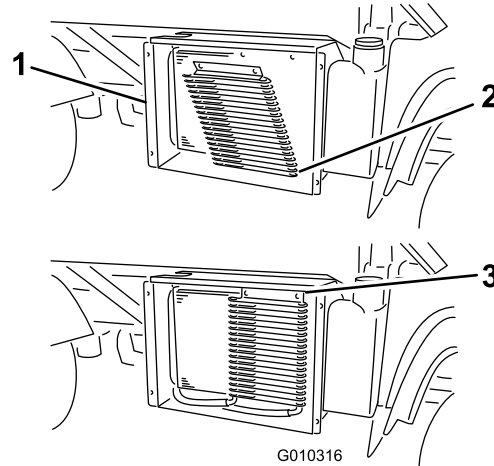

Figure 61
3. If so equipped, rotate the latches and pivot the oil cooler away from the radiator (Figure 61).